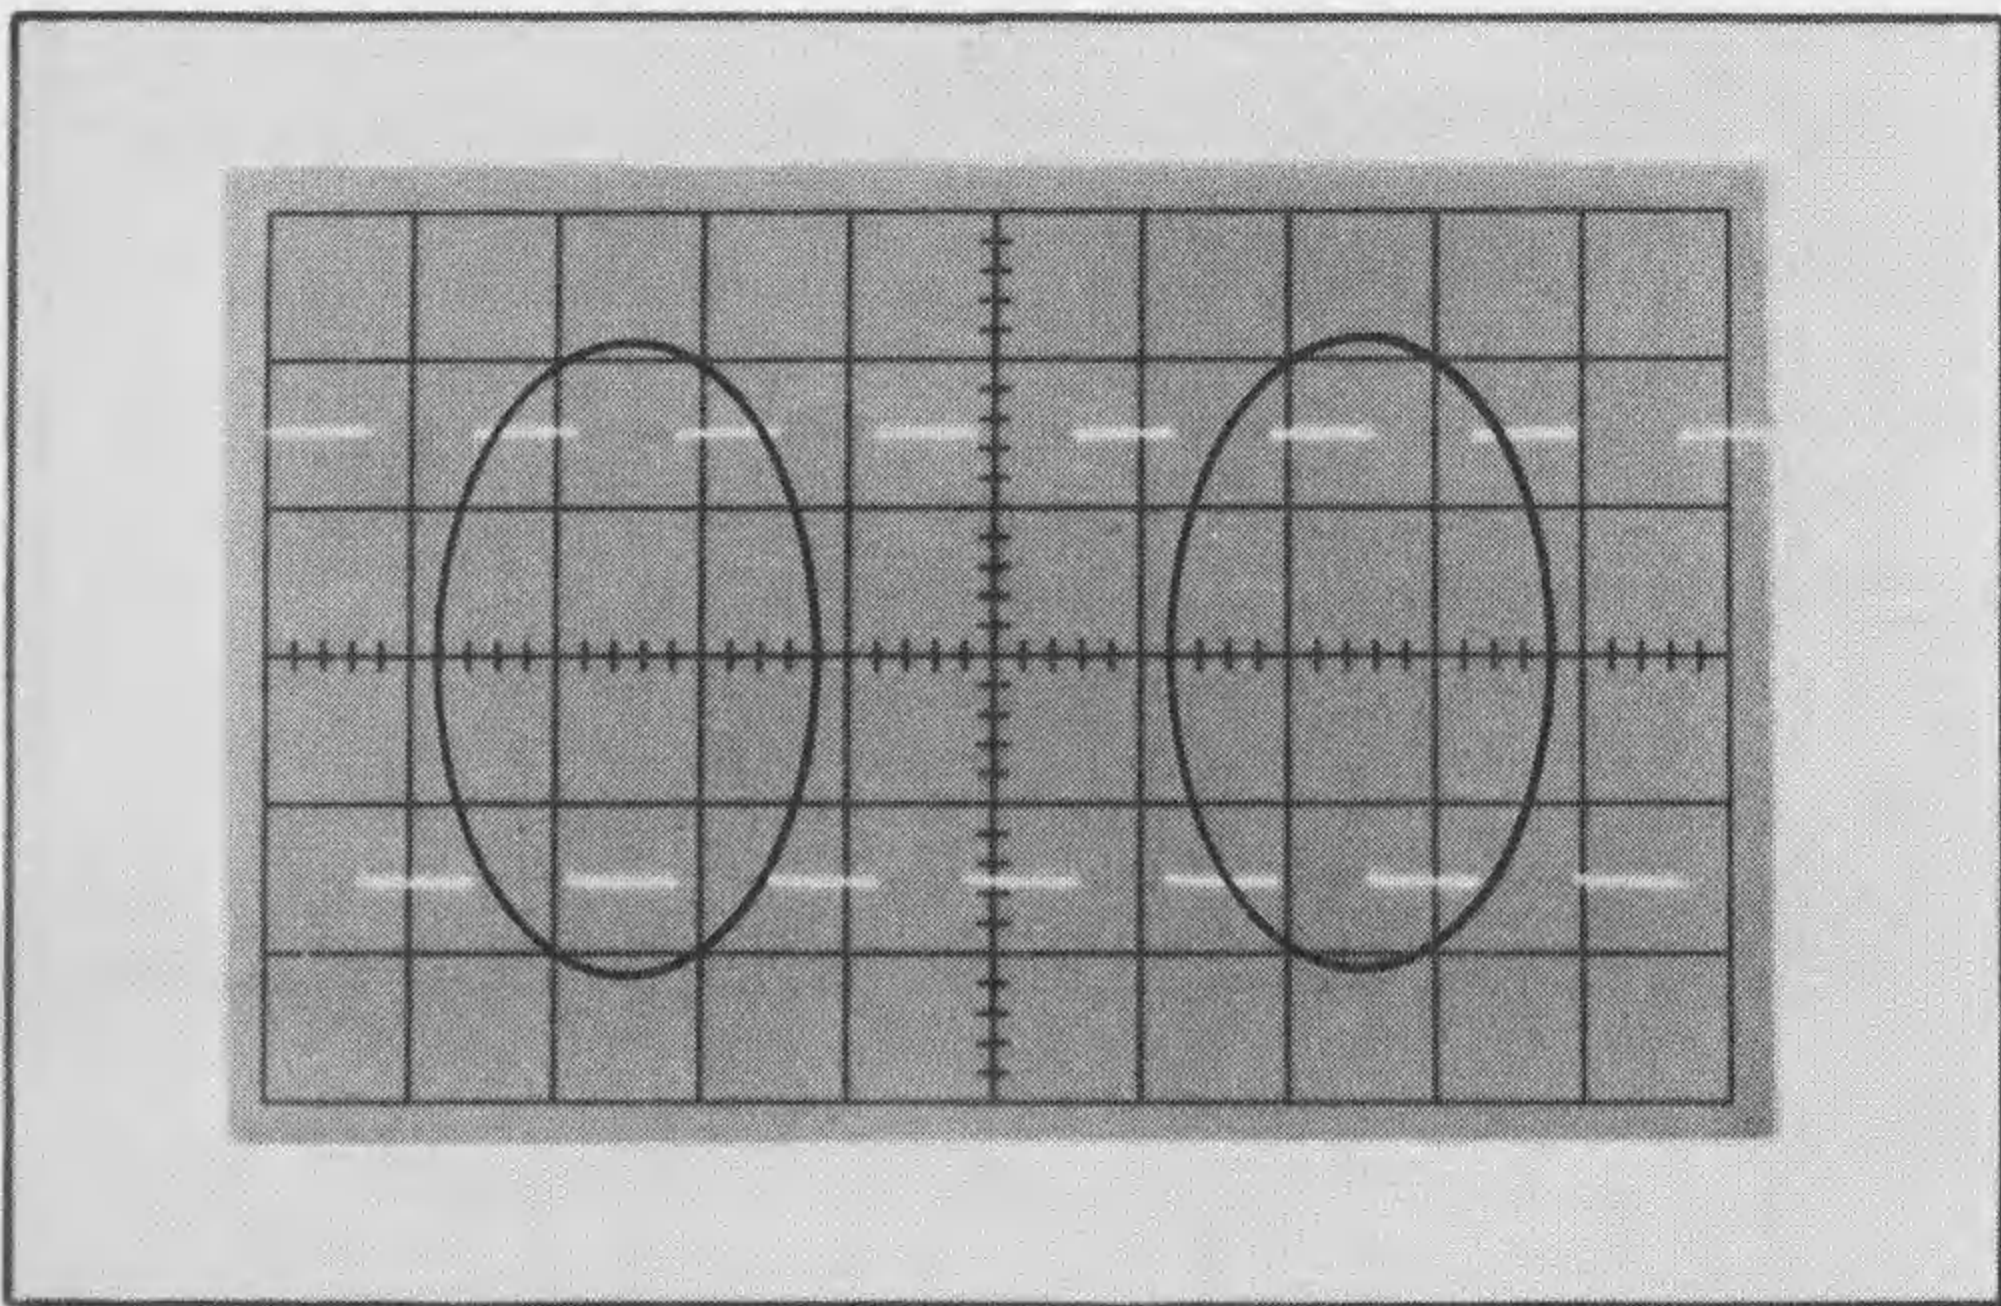

Fig. 2-8. Focus and Astigmatism adjustment waveform.
**ASTIG.** Adjust the VARIABLE (VOLTS/DIV) to obtain 3 divisions of vertical amplitude. Center the trace as shown in Fig. 2-8.
ADJUST—ASTIG and FOCUS controls until the corners of the square wave display are sharply and clearly defined. Concentrate on sharpening trace definition in the display areas circled in Fig. 2-8 to obtain best overall focusing. Once FOCUS and ASTIG have been set, changes in intensity should only require adjustment of the FOCUS control.